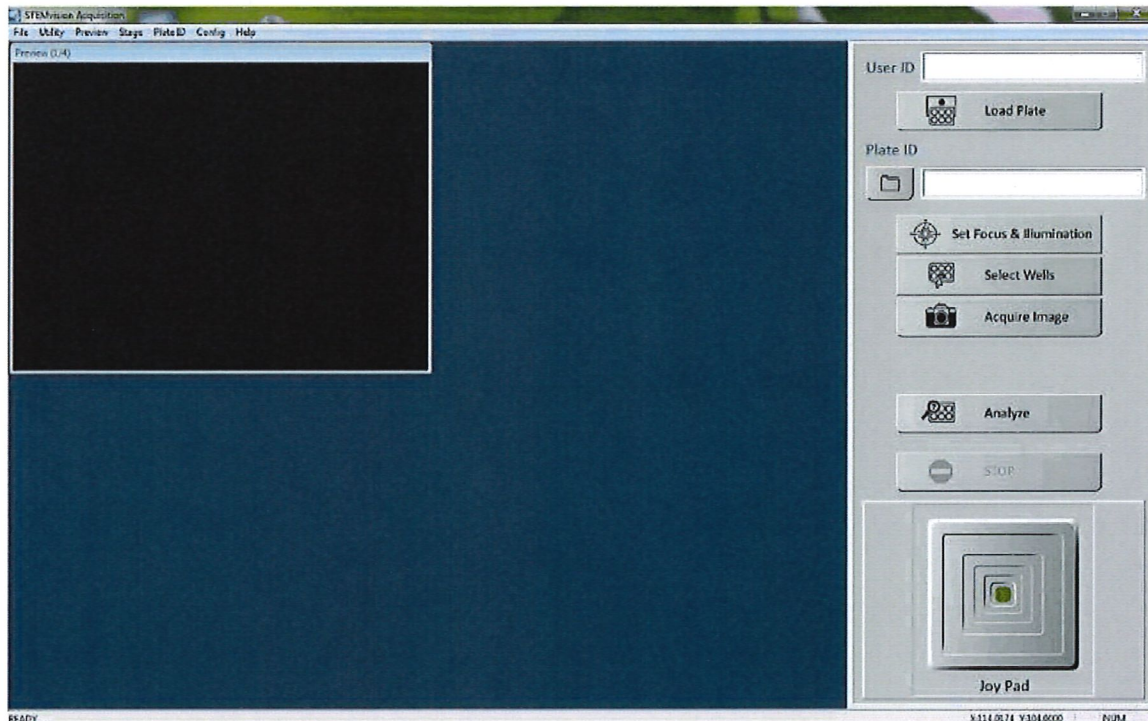

Figure 1
- 8.3.2 A window will open displaying the Menu Bar, a Control Panel (provides quick access for controlling all major features) menu on the right and the Preview Window (shows the live camera image) on the left. See *Figure 1*.